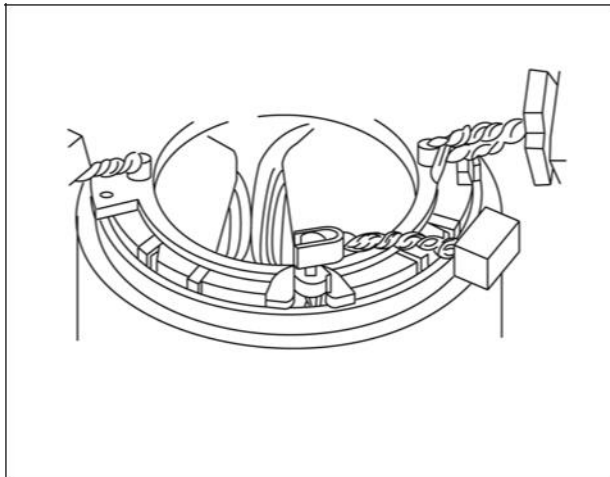

Figure 68
1. Assemble drive lever to pinion and install armature and drive lever into drive housing (Figure 68).